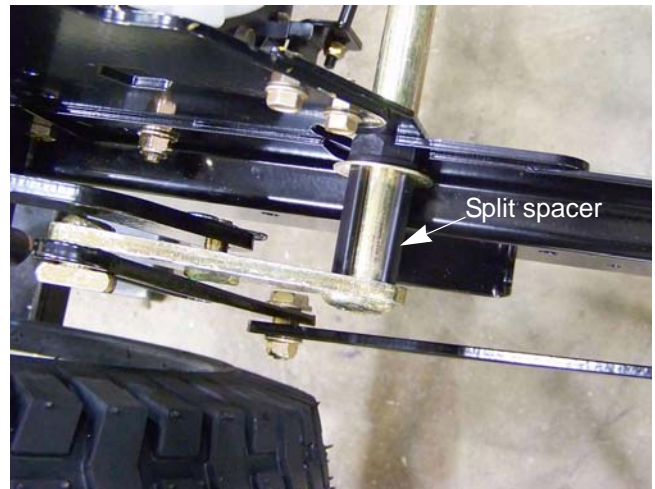

Figure 8.29
3. Remove the split spacers. See Figure 8.29.
8. Remove the split spacers. See Figure 8.29.